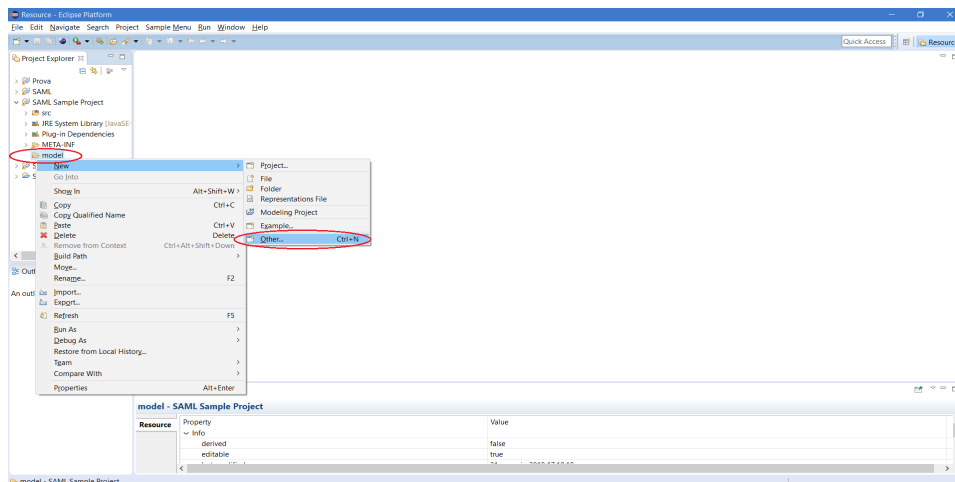

Figure 2.4: Right click on the folder and find other
- Click on finish. Now, as you can see on the left, there is the package of your project. Expand it, right click on the **Model** folder, select new and then other (figure 2.4);